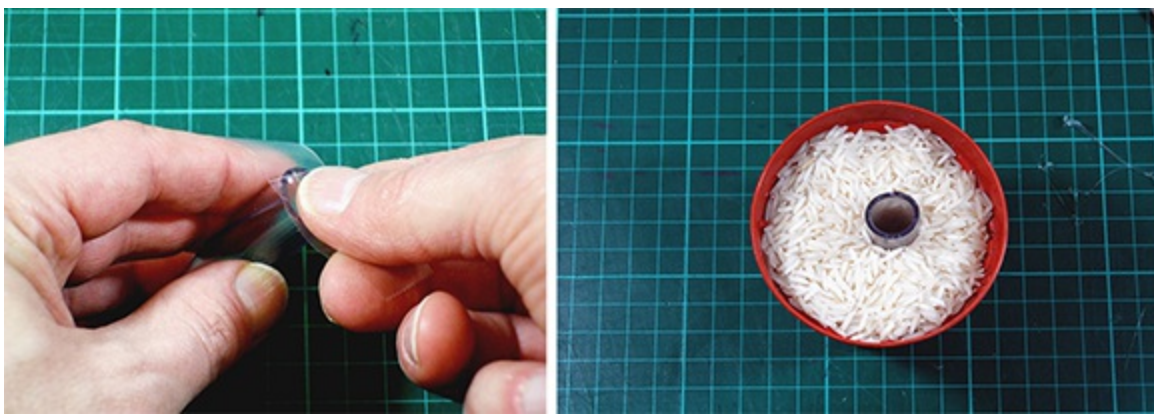

Figure 10-5: Applying tape to your mold.
4. Gently press the tube into the pot of rice, which holds it upright while the plaster sets, as shown in Figure 10-5.